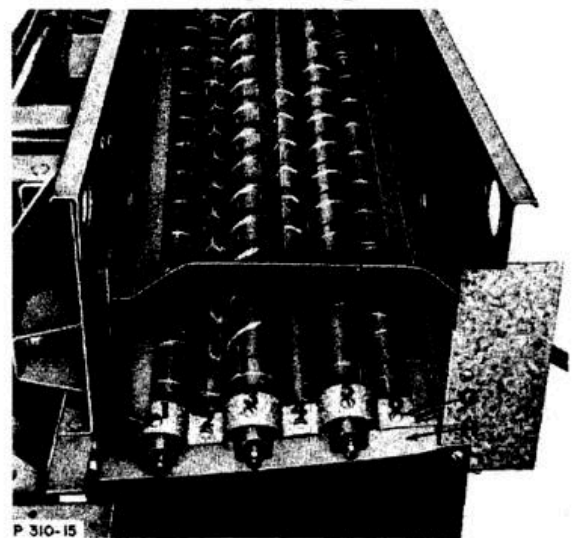

Figure 37
Figs. 37 and 38
1. Remove roll cover "G" and end shield "H" (Fig. 37).
THE HUSKING ROLLS MUST BE TIMED AS SHOWN IN FIG. 37 FOR PROPER OPERATION. TO TIME THE HUSKING ROLLS PROCEED AS FOLLOWS: